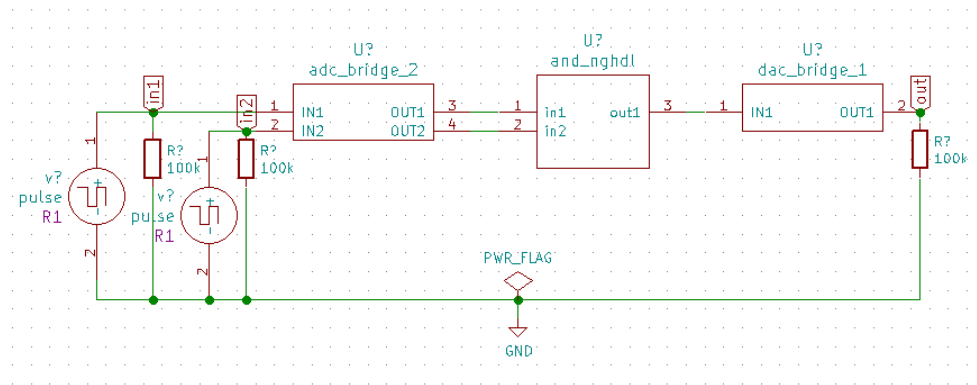

Figure 9.10: Example of an AND gate characteristics circuit
4. Now create the schematic as shown in Fig. 9.10, annotate, perform ERC, create the netlist and save the schematic by following the steps given in Chapter 5.